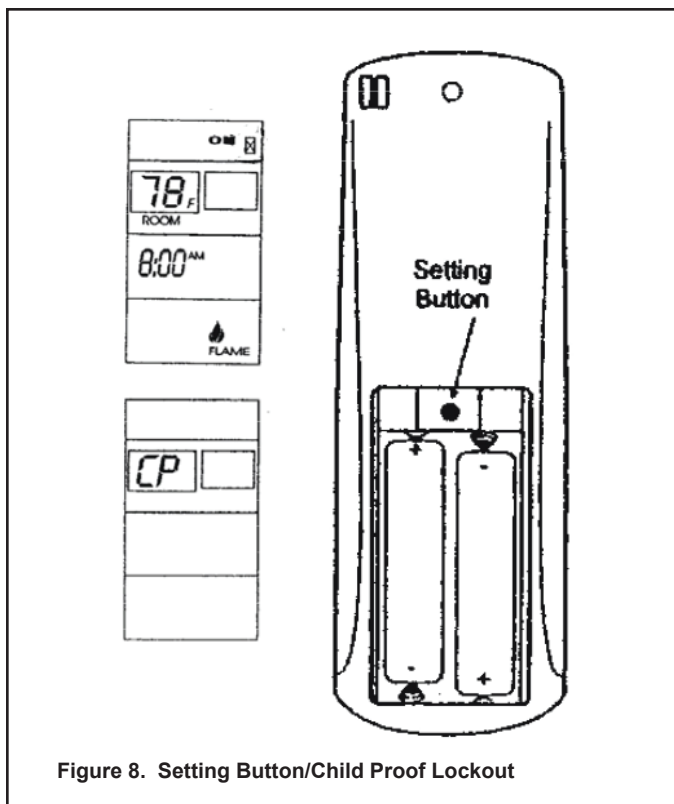

Figure 8. Setting Button/Child Proof Lockout
1. Remove the battery cover on the back of the transmitter and locate the "setting button" at the top center of battery compartment (see Figure 8).
1. Press and hold in the "setting button" for 5 seconds. The letters CP will display on the LCD screen (see Figure 8). This prevents the activation of fireplace. When any function button is pressed ON/OFF etc. the letter CP will display on the LCD screen.